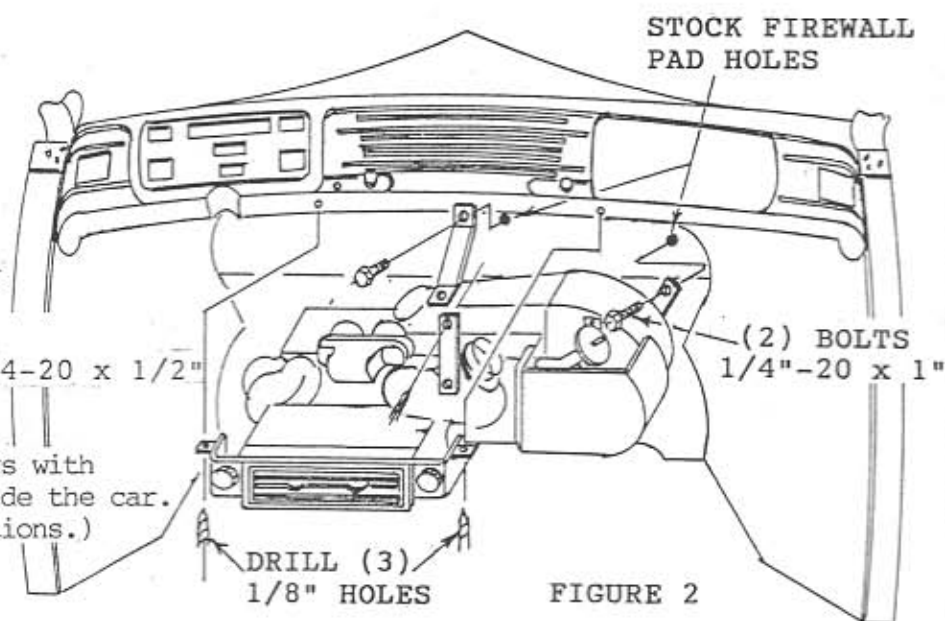

FIGURE 2
3. Brackets are furnished to mount the evaporator case using the cowl vent. (Attach to firewall as shown). Figure 2
4. The cowl vent handle will work if moved to the side. You can also convert to electric or cable operation. If you close off the cowl vent the unit will fit higher in the car. NOTE: to mount unit higher, simply determine the new location, mark and redrill the bracket to fit as described in Step 6 figure 2.
B. Attach rear bracket to the evaporator using (2) 1/4"-20 x 1/2" bolts.